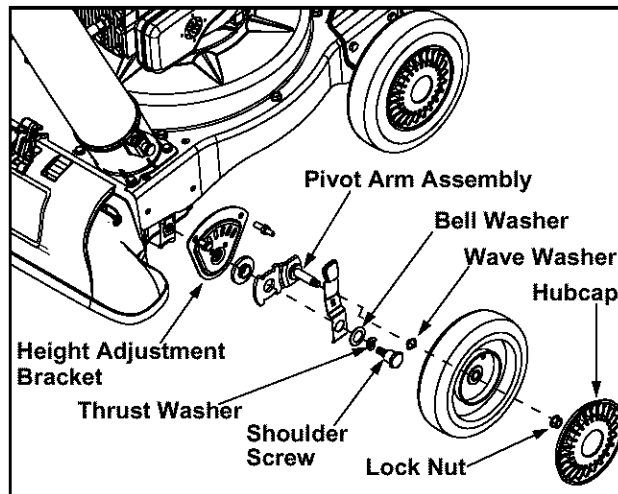

Figure 14
- Remove the front hubcaps, lock nuts, front wheels, and wave washers that attach to the pivot arm assemblies. See Figure 14.